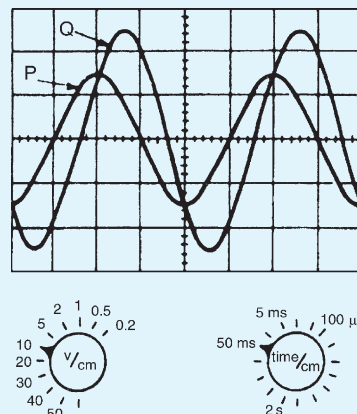

Figure 10.41
- Fig. 10.41 shows double-beam c.r.o. waveform traces. For the quantities stated in questions 11 to 17, select the correct answer from the following: